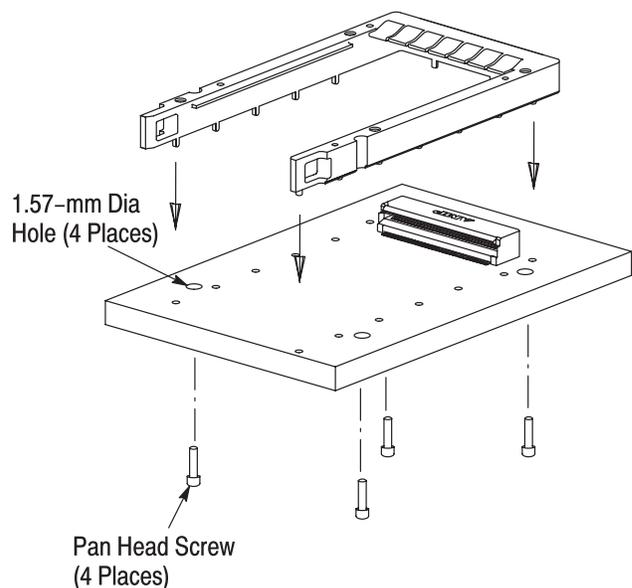

Figure 2
2. For single-sided application, insert the screws through the 1.57-mm diameter holes in the host pc board and into the threaded through holes in the guide rail. Refer to Figure 2.